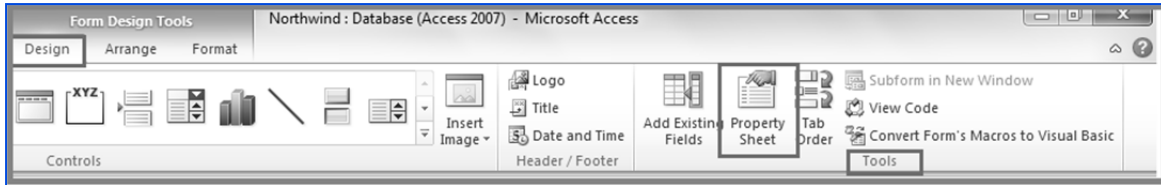

Fig. 4.2.12: Select Property Sheet
- Open the control properties by selecting the *Command* button and press *F4*. Alternatively, select *Property Sheet* from *Design* -> *Tools*, as shown in Fig. 4.2.12.